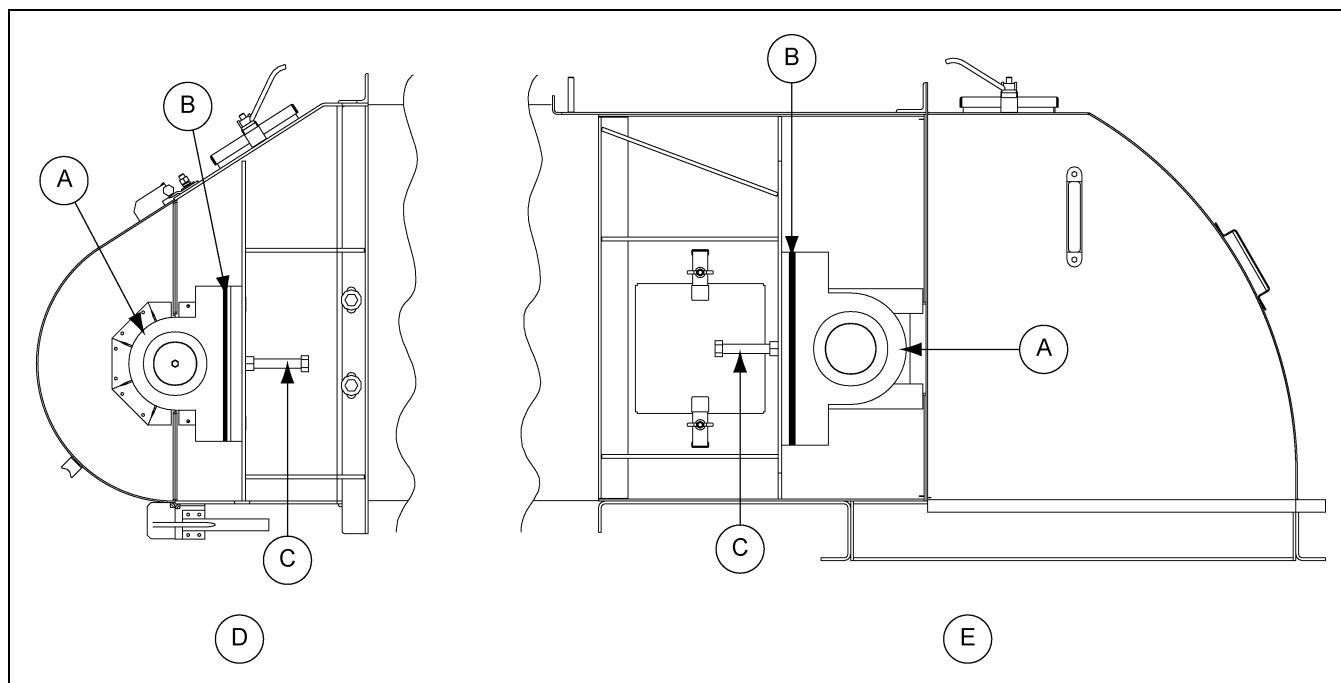

Figure 6V
3. After conveyor has been installed, check to see if the unit is level (width wise). The conveyor must be level for proper belt tracking. (See Figure 6V.)